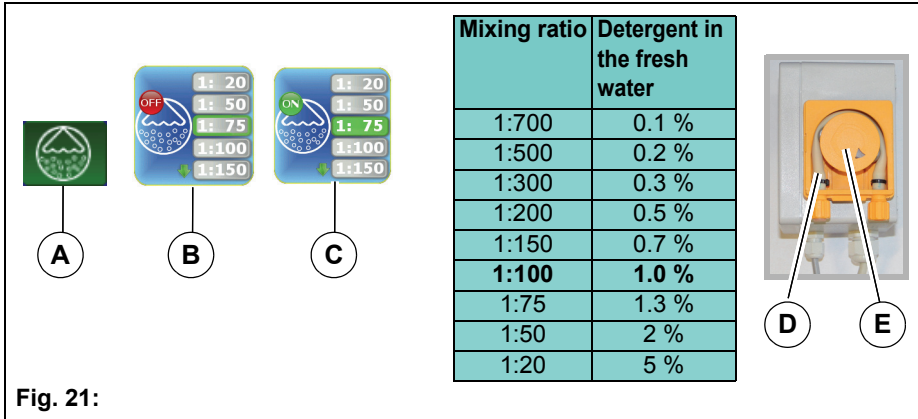

Fig. 21:
2. Select soft key *Dosing system* **Fig. 21-A** with the turn-push knob and confirm.
Set the desired mixing ratio and confirm with the turn-push knob **Fig. 21-B**.
The set mixing ratio is displayed with a green background **Fig. 21-C**.
Check the piece of hose **Fig. 21-D** in the dosing pump and replace it after one year at the latest.
Replace the rotor **Fig. 21-E** after three years at the latest.